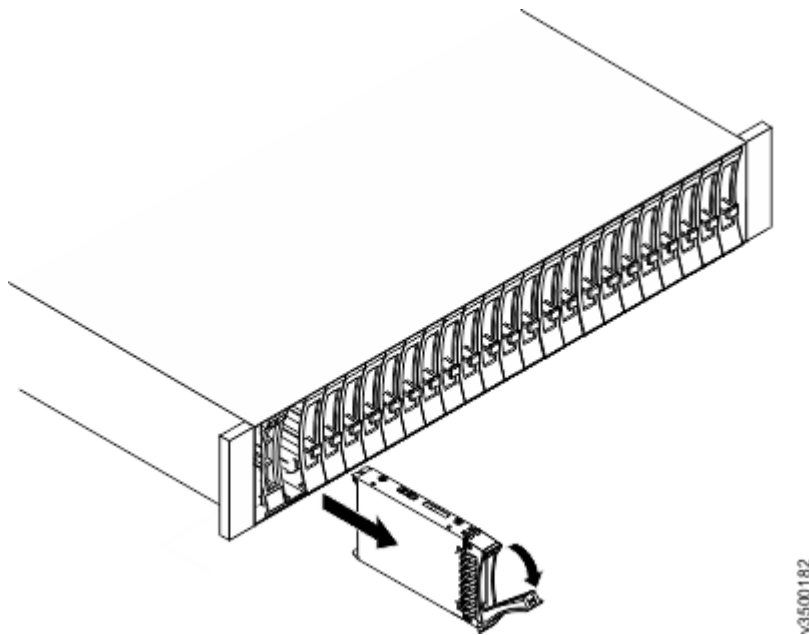

Figure 87. Unlocking and removing a 2.5-inch drive from its slot
5. Pull out the tray handle to the open position (see Figure 87 on page 139).